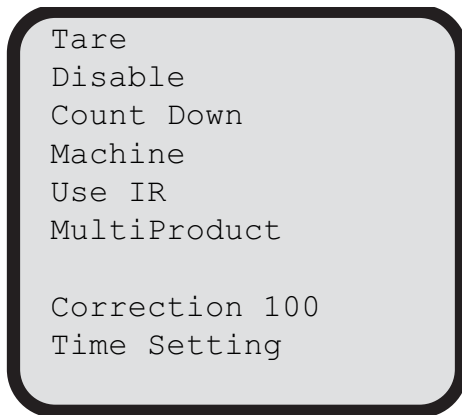

Figure 4-2. Screen After the Utility Button is Pressed
1. Press the Utility button. The display appears as in Figure 4-2.
The display appears as in Figure 4-2.